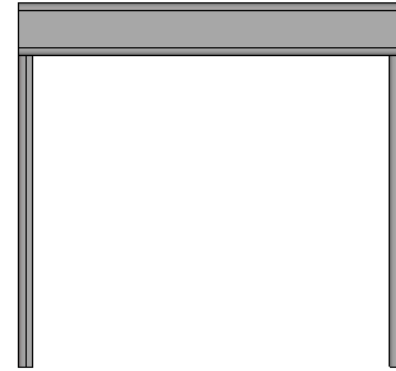

Fig3d. Fix Corner 'L' Bench
- i. For corner 'L' Benches fix through the side of the perpendicular bench using 2No 50mm screws and 30mm washers Fig 3d